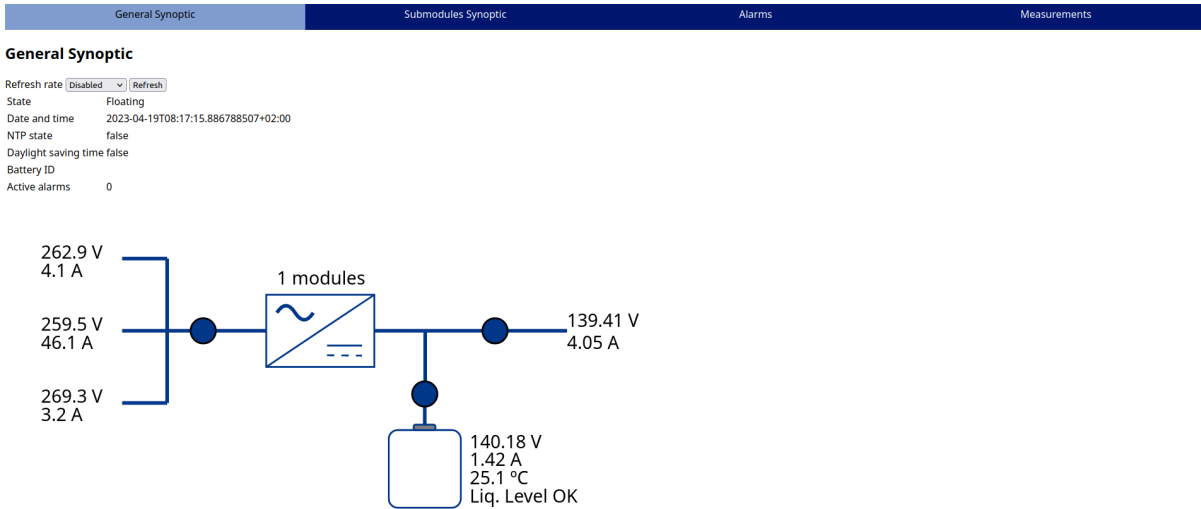

Figure 35 - Web - Overview
To access the web server of the communications module (DAS), you must access the configured IP address, which will coincide with the IP address shown at the top left of the display, followed by the port, in this case the number 7878. When accessing via the browser, the screen of the Figure 35 will be displayed. Where the following four main tabs are distinguished.
As shown on Figure 35, the page displays the system overview, where we can find the same information as in the touch screen overview.
- General synoptic (Figure 35): Displays the real-time status of the entire system.